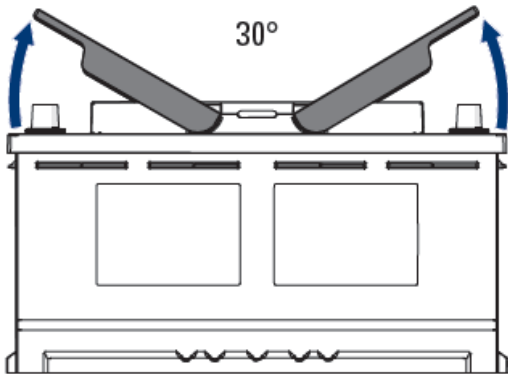

Figure 10: Remove the handle covers
2. Connect the load or charger to the X2 (+) terminal of the battery, see Figure 10.
3. Connect the load or charger to the X1 (-) terminal of the battery, see Figure 10.